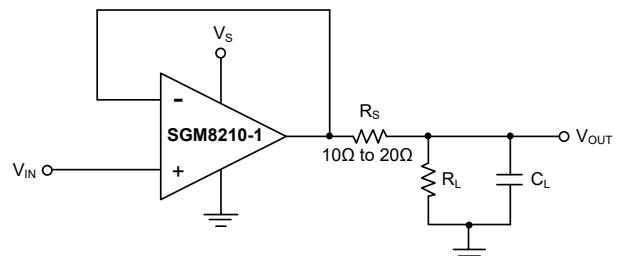

Figure 2. Series Resistor in Unity-Gain Buffer Configuration Improves Capacitive Load Drive
Follower configurations with load capacitance in excess of 30pF can produce extra overshoot and ringing in the output signal. Increasing the gain enhances the ability of the amplifier to drive greater capacitive loads. In unity-gain configurations, capacitive load drive can be improved by inserting a small (10Ω to 20Ω) resistor, R_S , in series with the output, as shown in Figure 2. This resistor significantly reduces ringing while maintaining direct current (DC) performance for purely capacitive loads. However, if there is a resistive load in parallel with the capacitive load, a voltage divider is created, introducing a DC error at the output and slightly reducing the output swing. The error introduced is proportional to the ratio R_S/R_L , and is generally negligible.